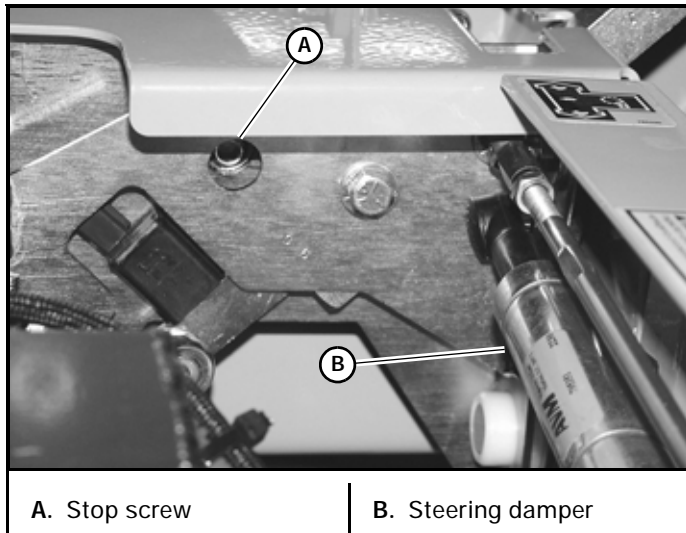
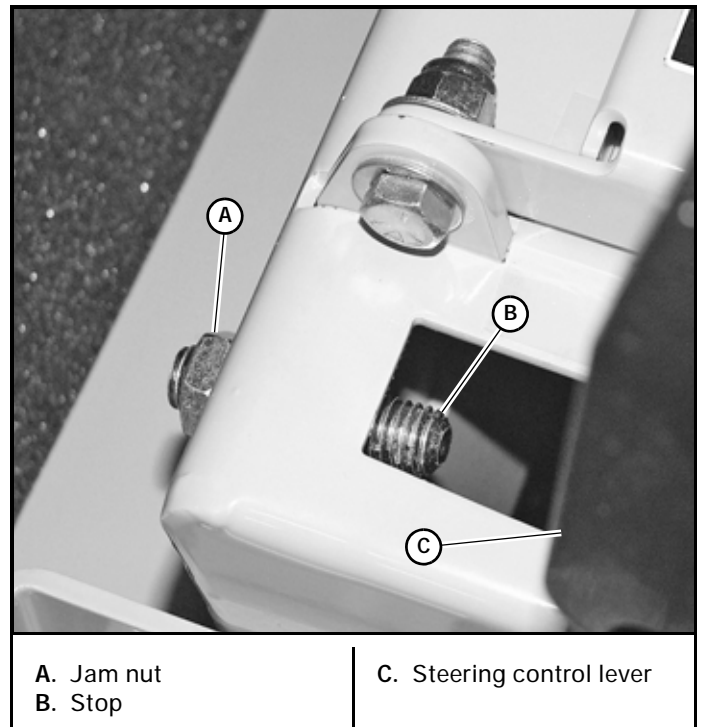

Figure 4-4
Figure 4-5
The internal steering control lever stops (see Figure 4-4) are designed to keep the pumps from bottoming out internally. The external steering control lever stops (see Figure 4-5) may be adjusted to help the mower drive straight when the steering control levers are pushed forward against the stops.
arms are stopping the forward motion of the control arms, loosen the jam nut on the adjustable stop of the corresponding side, turn the stop (set screw) inward to stop the steering control levers slightly before the pump bottoms out. Lock in place when the adjustment is correct by re-tightening the jam nut. Do this for each side. Figure 4-4
1. Determine which drive tire is rotating too fast when both steering control levers are against the stops in the control panel (see Figure 4-5).